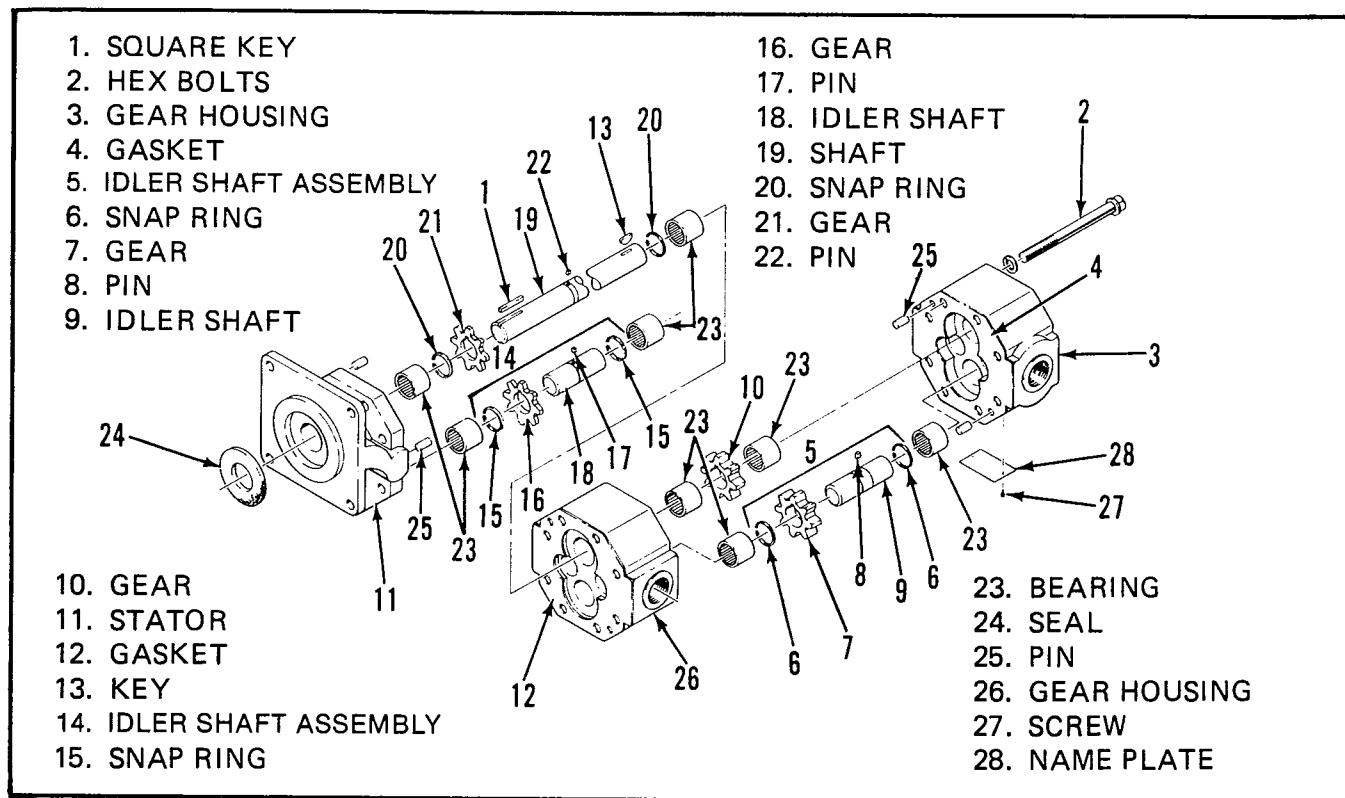

Figure 5-12. Hydraulic Pump Disassembly
(1) Disconnect the hose assemblies (1, 2 and 3) and plug them.
(2) Loosen the setscrews (4 and 5) then slide the three piece coupling (6) toward the motor as far as possible.
(3) Remove the nuts (7) and lockwashers (8) to free the pump (9) from the mount.
(4) As the pump (9) is maneuvered away from the mount, slide the coupling off the pump shaft. Take care to retain the key (10).
b. Disassembly and Inspection (Figure 5-12).